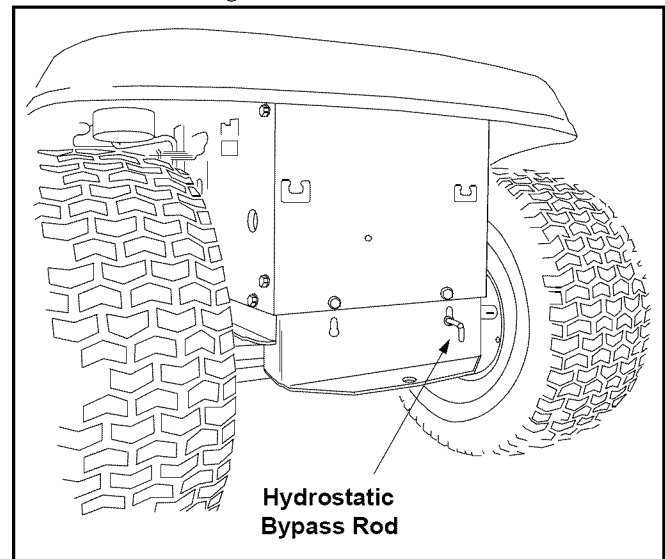

Figure 12
- Locate the hydrostatic bypass rod in the rear of the tractor. See Figure 12.